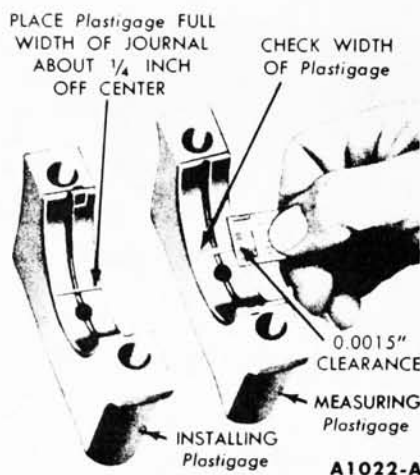

FIG. 66—Installing and Measuring Plastigage—Engine In Chassis
9. Place a piece of Plastigage on the bearing surface the full width of the bearing cap and about 1/4 inch off center (Fig. 66).